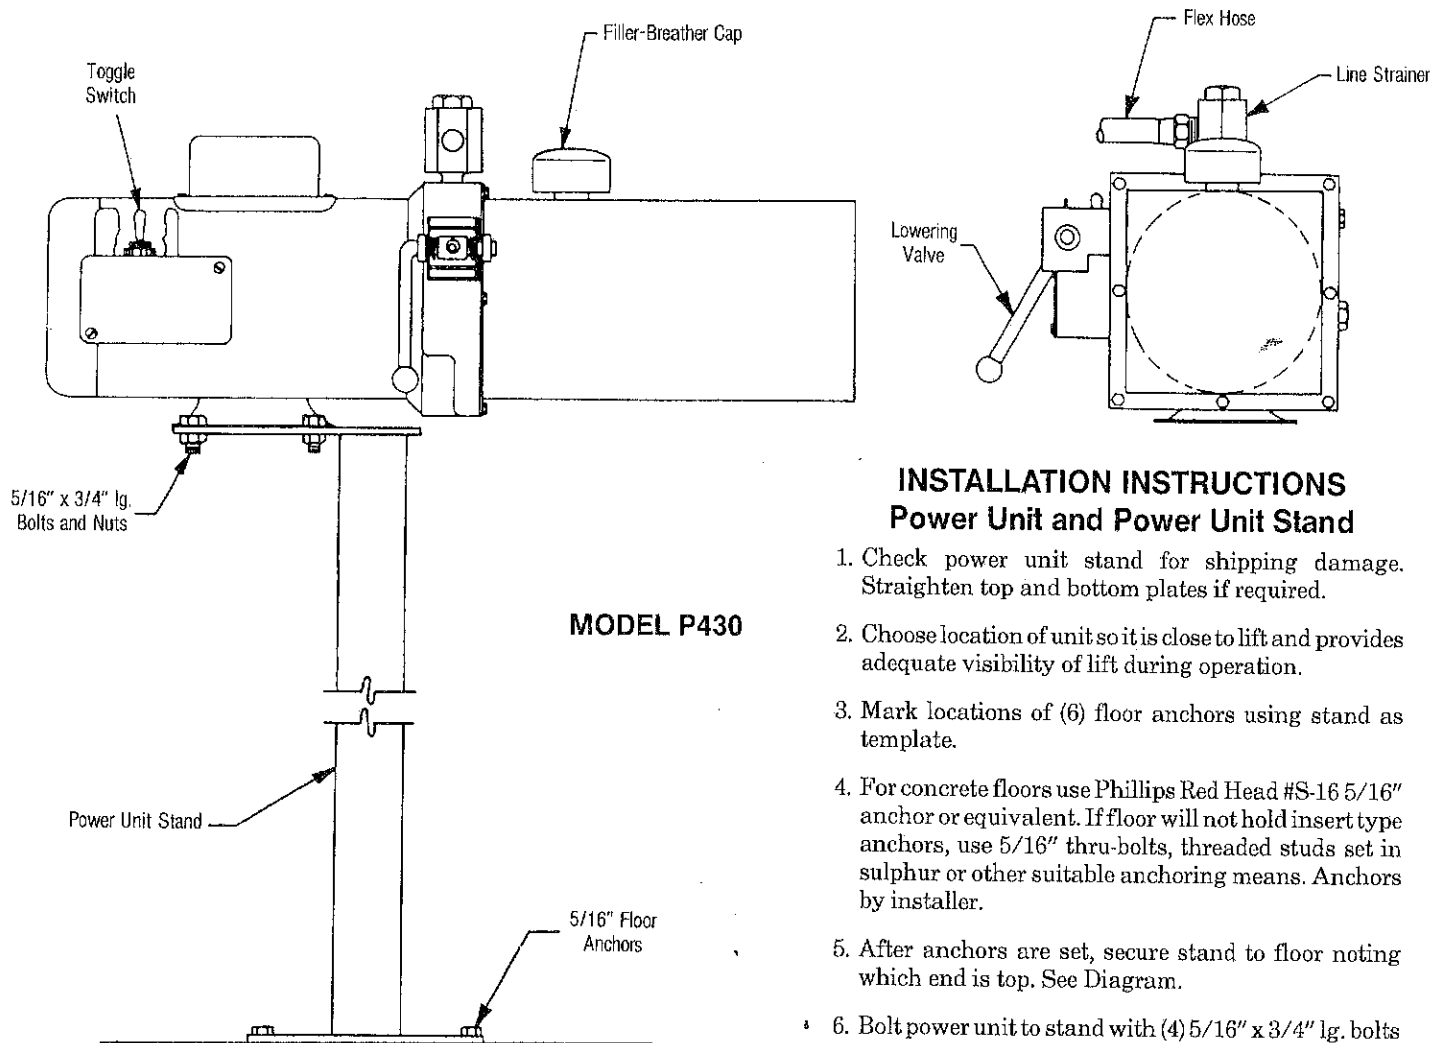

Fig. 2
9. Install power unit stand & power unit per Fig. 2. If power unit stand is not used, motor must be at least 24" above floor. Standard Nema 1 motor is not suitable for outside installation. Factory recommends ordering a Nema 4 (weatherproof) power unit for this application.